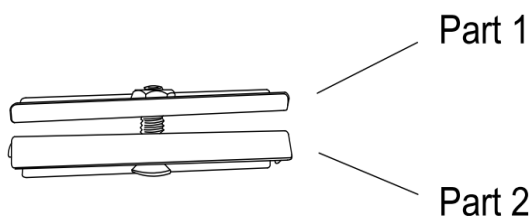

FIGURE 1
1. Insert the metal bar [Part 1] into the overflow hole. See Figures 1 and 2.
See figures 1 and 2. Next, place the waterproof rubber washer over the drain hose with the flat side facing upwards. Screw the drain hose over the drain and tighten.